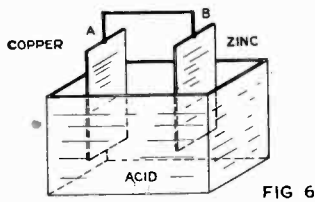

Fig. 6. The elements of an electric battery.
**12. Voltage:** We have seen that the movement of electrons along a conductor constitutes an electric current. However, if we take a piece of copper wire and hold it in our hand, no electric current flows, since there is no force or tendency to make the electrons move. We must apply some external force to the wire, called voltage, to produce the current. If we take a strip of copper wire and one of zinc, partly immersed in a solution of dilute sulphuric acid, and connect them with a wire, AB—Fig. 6, chemical action will take place and electrons will be removed from the copper and given to the zinc. This results in the copper plate having less than its normal number of electrons and the zinc plate having more than its number. The result is an unbalancing of the charges, and electrons will flow from B through the wire to A tending to equalize the charges again. This constitutes the flow of an electric current and we say the current flows through the wire from A to B. We have here a simple electric battery where A is the positive terminal and B is the negative terminal. The battery serves the purpose of causing a continuous flow as long as chemical action continues at the zinc—that is, as long as a voltage is present.